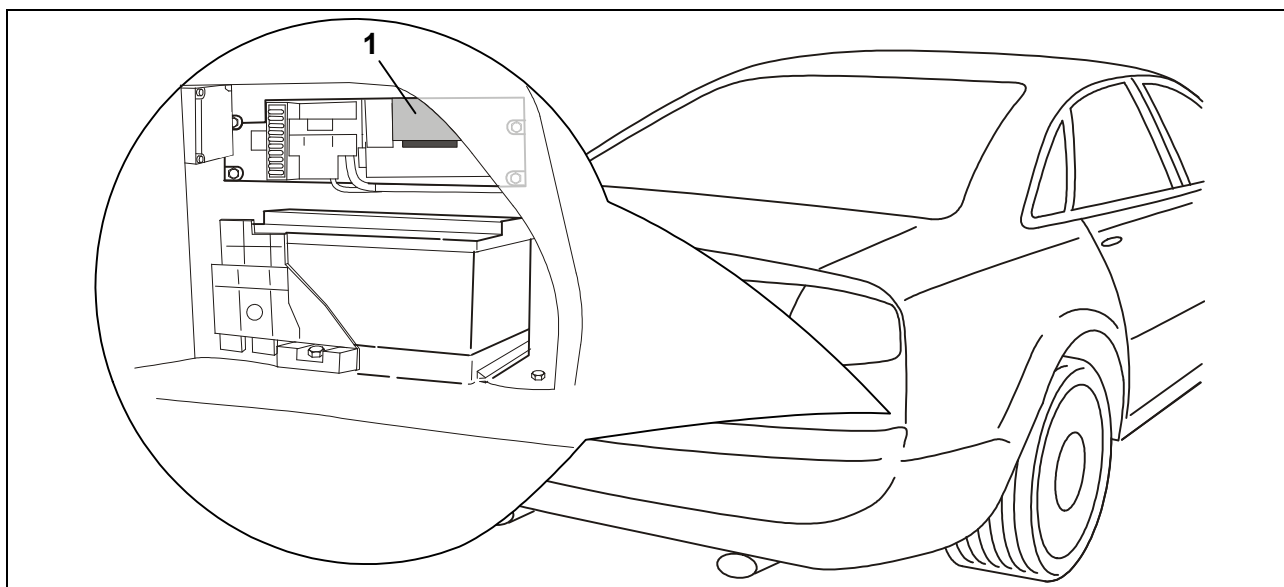

Fig. 5: Rear control unit (ILM)
19. Disconnect the 32-pin plug (blue) from the rear control unit (ILM) (Fig. 5/1).
23. Connect the 32-pin plug (blue) to the rear control unit (ILM) (Fig. 5/1).